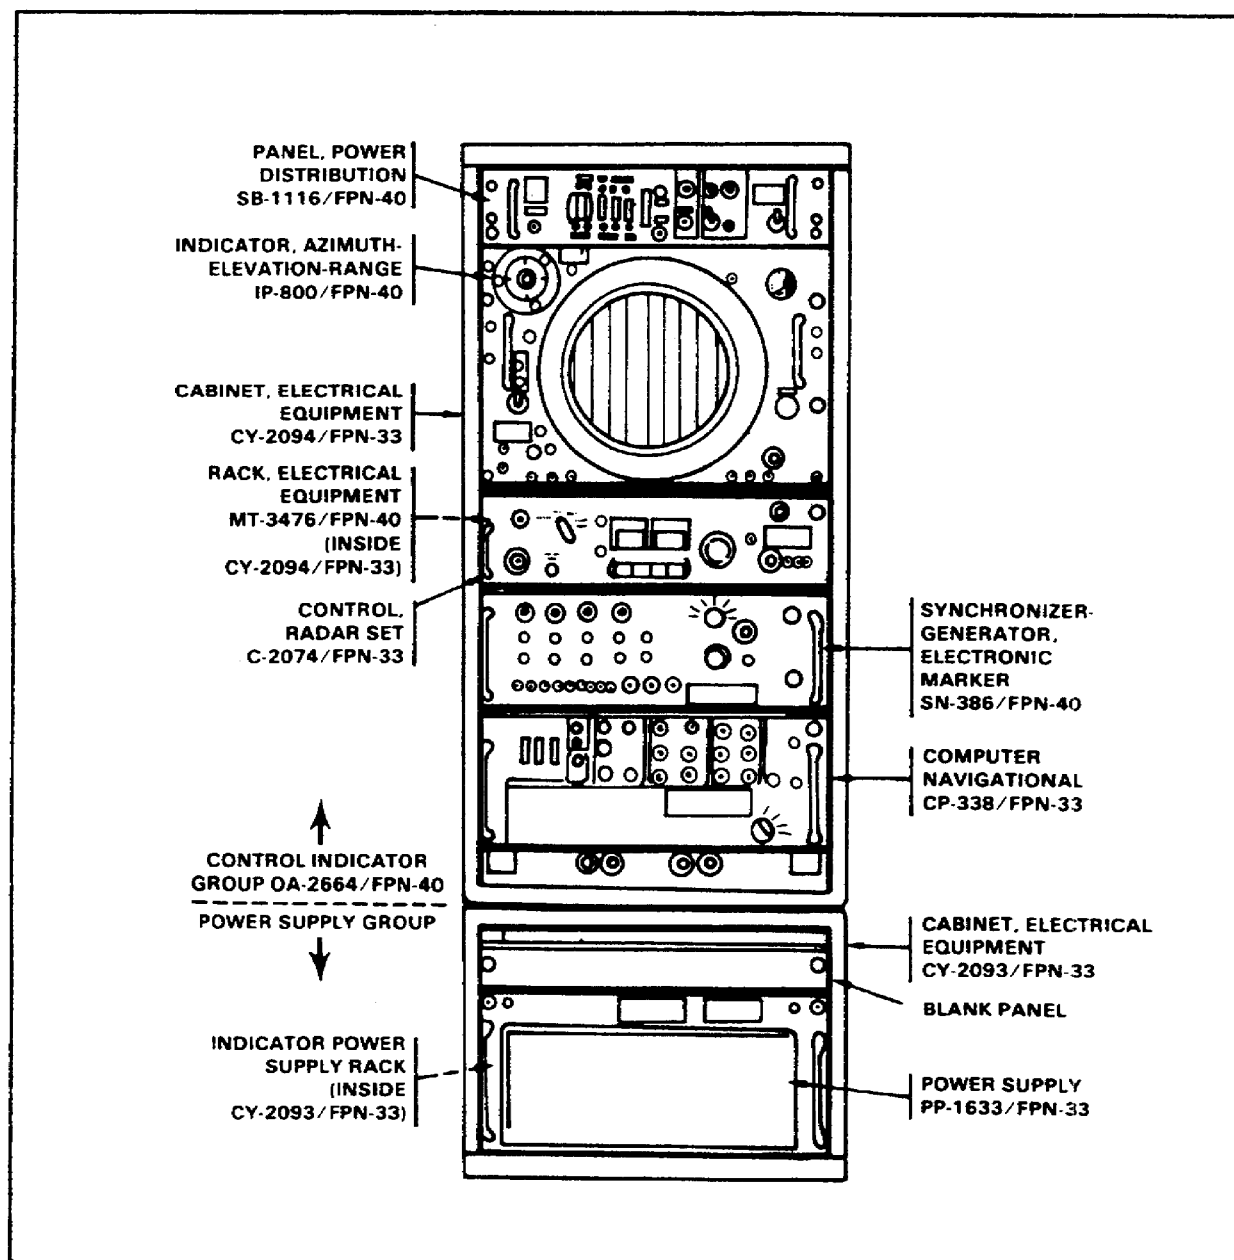

Figure 25. Control indicator group OA-2664/FPN-40.
b. Locate the following drawers on control indicator group OA-2664/FPN-40. (See Figure 25.)
- (1) Panel, power distribution SB-1116/FPN-40.
- (2) Indicator, azimuth-elevation-range IP-800/FPN-40.
- (3) Control, radar set C-2074/FPN-33.
- (4) Computer, navigational CP-338/FPN-33.
- _____ Computer, navigational CP-338/FPN-33 (Figure 25)